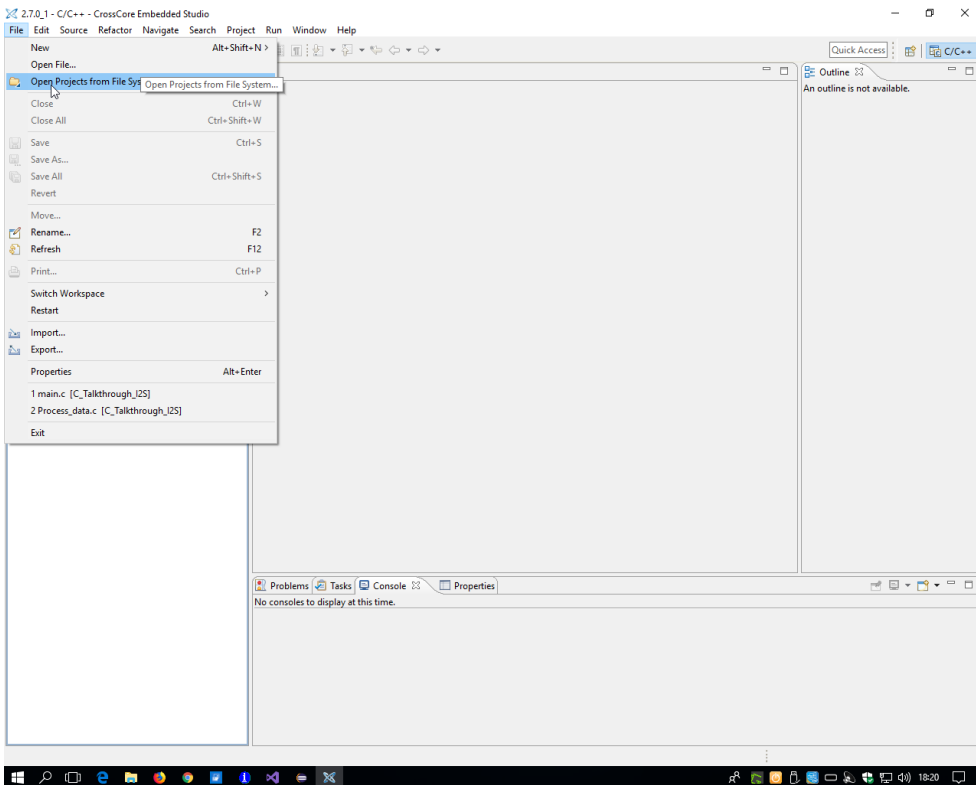
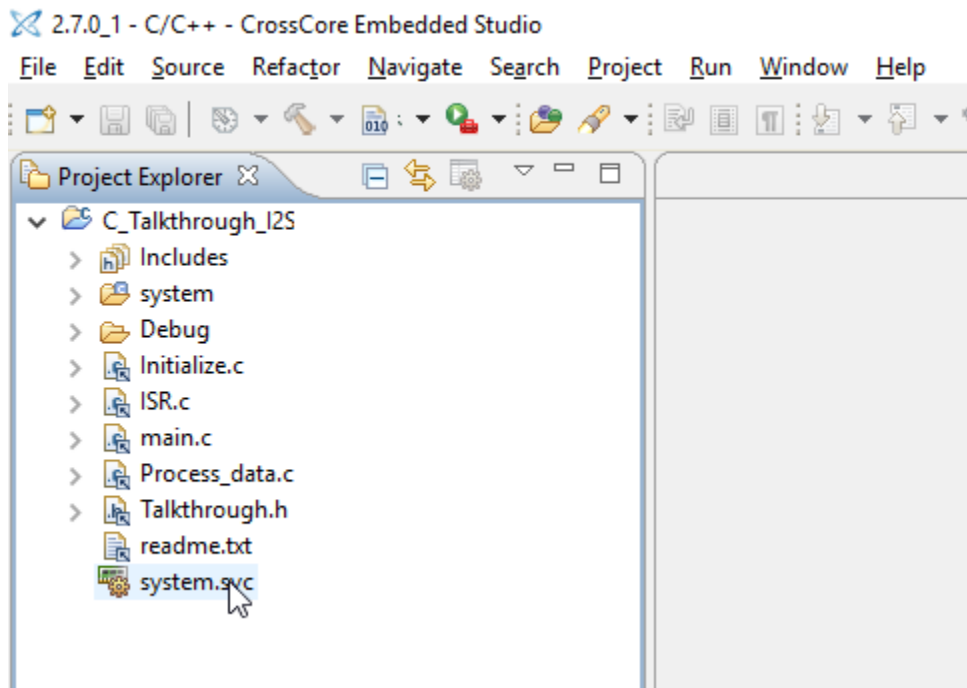

Figure 7 Opening the project - Step 1
Figure 11 Opening the project - Final
4. Open the selected project (Figure 7 - Figure 11)